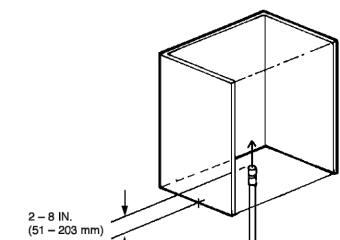

FIGURE 4-1
1. Nozzles must be located 2-8 in. (51-203 mm) into the center of the duct opening, discharging up. See Figure 4-1.